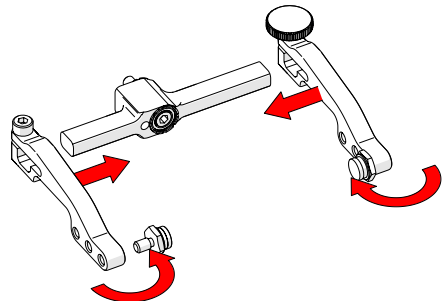

Fig. 108 - Attach arms & move buttons
5. Place the pivot buttons on the inside of the probe holder arms (Fig. 108) using a 3/8 in wrench (Fig. 40).